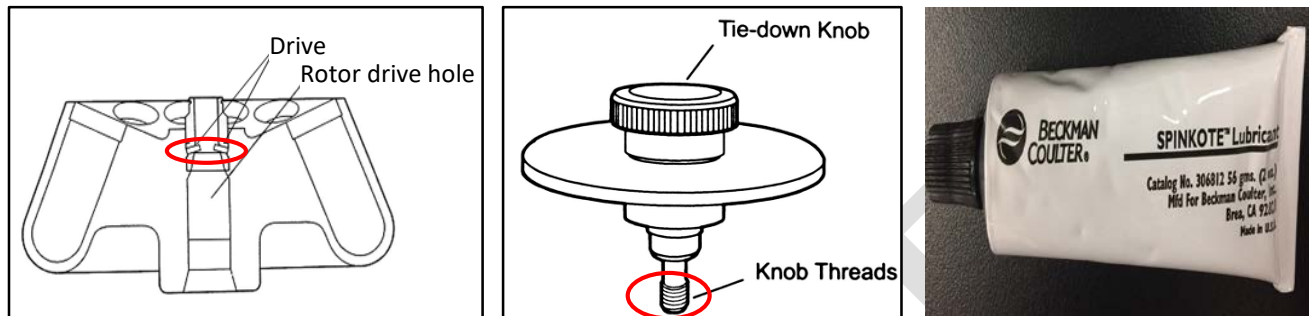

Fig.7 Lubrication area (Spinkote)
5.5.1 Lubricate the rotor drive pins and metal threads (in the rotor or on the lid) with a thin, even coat of Spinkote lubricant (fig.7).